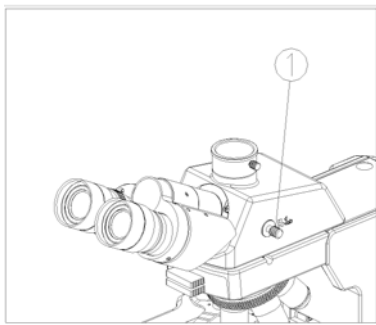

Fig. 21
When using a trinocular head, the light path selection lever ① controls the light split between the eyepieces and photo port. When the lever is pushed in, all the light will be directed to the eyepieces; when it is pulled out, the light will be split 50:50 between the eyepieces and photo port. (See Fig. 21)